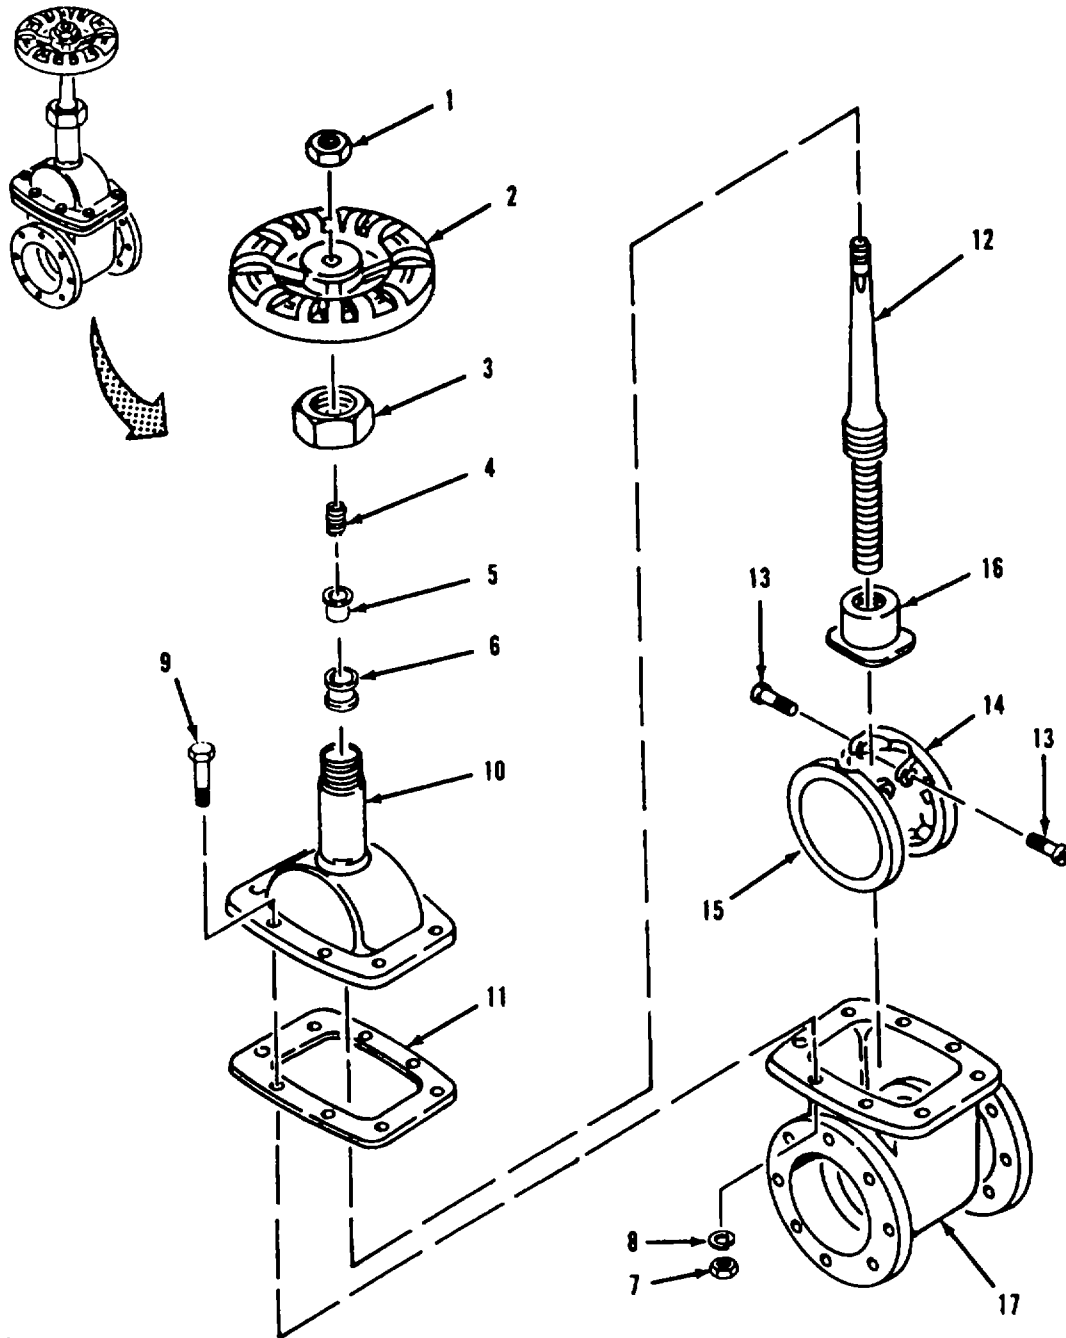

Figure 4-14. Gate Valve (4-Inch) Repair
- (1) Inspect bonnet (10) and valve body (17) for cracks, scored mating surfaces, stripped threads and corrosion.
- (2) Inspect for bent stem (12) for galled or stripped threads.
- (3) Inspect sealing surfaces of discs (14 and 15) and valve body (17) for deep scratches and cracks.
d. Repair. Replace damaged or defective parts. Do not reuse packing ring (6), flange gasket (11) or lockwashers (8).
e. Assembly. Refer to Figure 4-14.
- (1) Screw stem (12) all the way into bottom of bonnet (10), then back out stem three full turns. Do not allow stem to move from this position.
- (2) While holding stem (12) in place, screw disc riser (16) onto stem until bottom of riser is flush with end of stem.
- (3) Position discs (14 and 15) on riser (16) and install two screws (13).
- (4) While preventing stem (12) from turning in bonnet (10), turn discs (14 and 15) and riser (16) counterclockwise onto stem until top of discs contact bottom of bonnet.
- (5) Position gasket (11) on valve body (17).
- (6) While holding stem (12) in position, lower bonnet (10) and discs (14 and 15) into valve body (17). Do not rotate discs more than 1/4 turn to align discs with body.
- (7) Install eight screws (9), lockwashers (8), and nuts (7), in valve body (17) and bonnet (10).
- (8) Slide packing ring (6) over stem (12) and down into bonnet (10).
- (9) Slide packing gland (5) and gland spring (4) over stem (12).
- (10) Slide packing nut (3) over stem (12) and tighten onto top of bonnet (10).